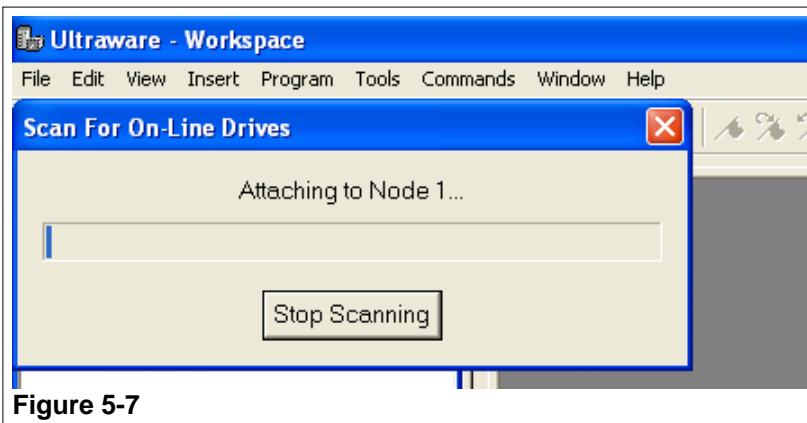

Figure 5-7
- Step 5. Ultraware program will scan nodes and attach to the drive. (Figure 5-7)